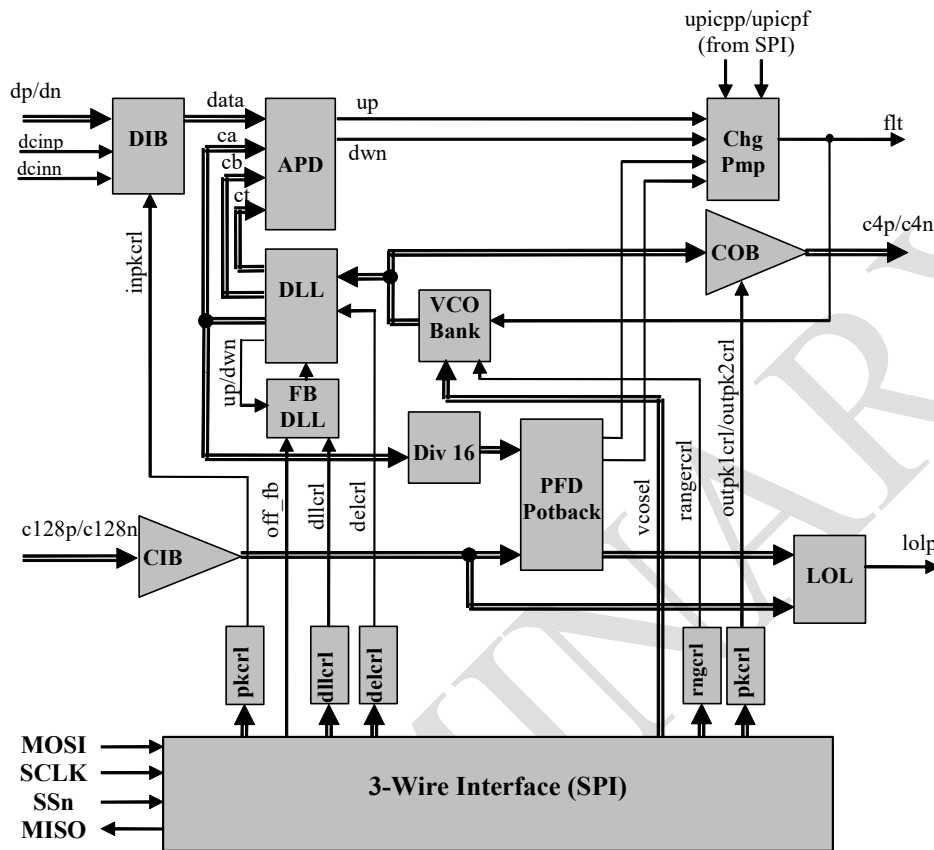

Fig. 1. Functional Block Diagram
This part is a quarter-rate integrated clock recovery (CR) circuit. The IC shown in Fig. 1 covers a wide range of input data rates (f_{bit}) by utilizing its six on-chip VCOs (voltage-controlled oscillators). To reduce the physical number of control inputs to the chip, a shift register with a 3-wire input interface (SPI) has been included on chip. The SPI block provides all the digital controls for the chip. It also provides digital controls for digital-to-analog converters (DACs) that handle internal analog DC voltage adjustments.